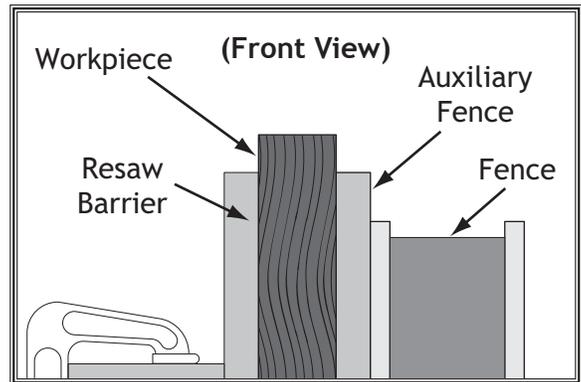

Figure 76. Example illustration of a resaw setup.
5. Place workpiece against auxiliary fence and slide resaw barrier against workpiece, as shown in **Figure 76**. Now clamp resaw barrier to top of table saw at both ends, making sure it is parallel to fence.